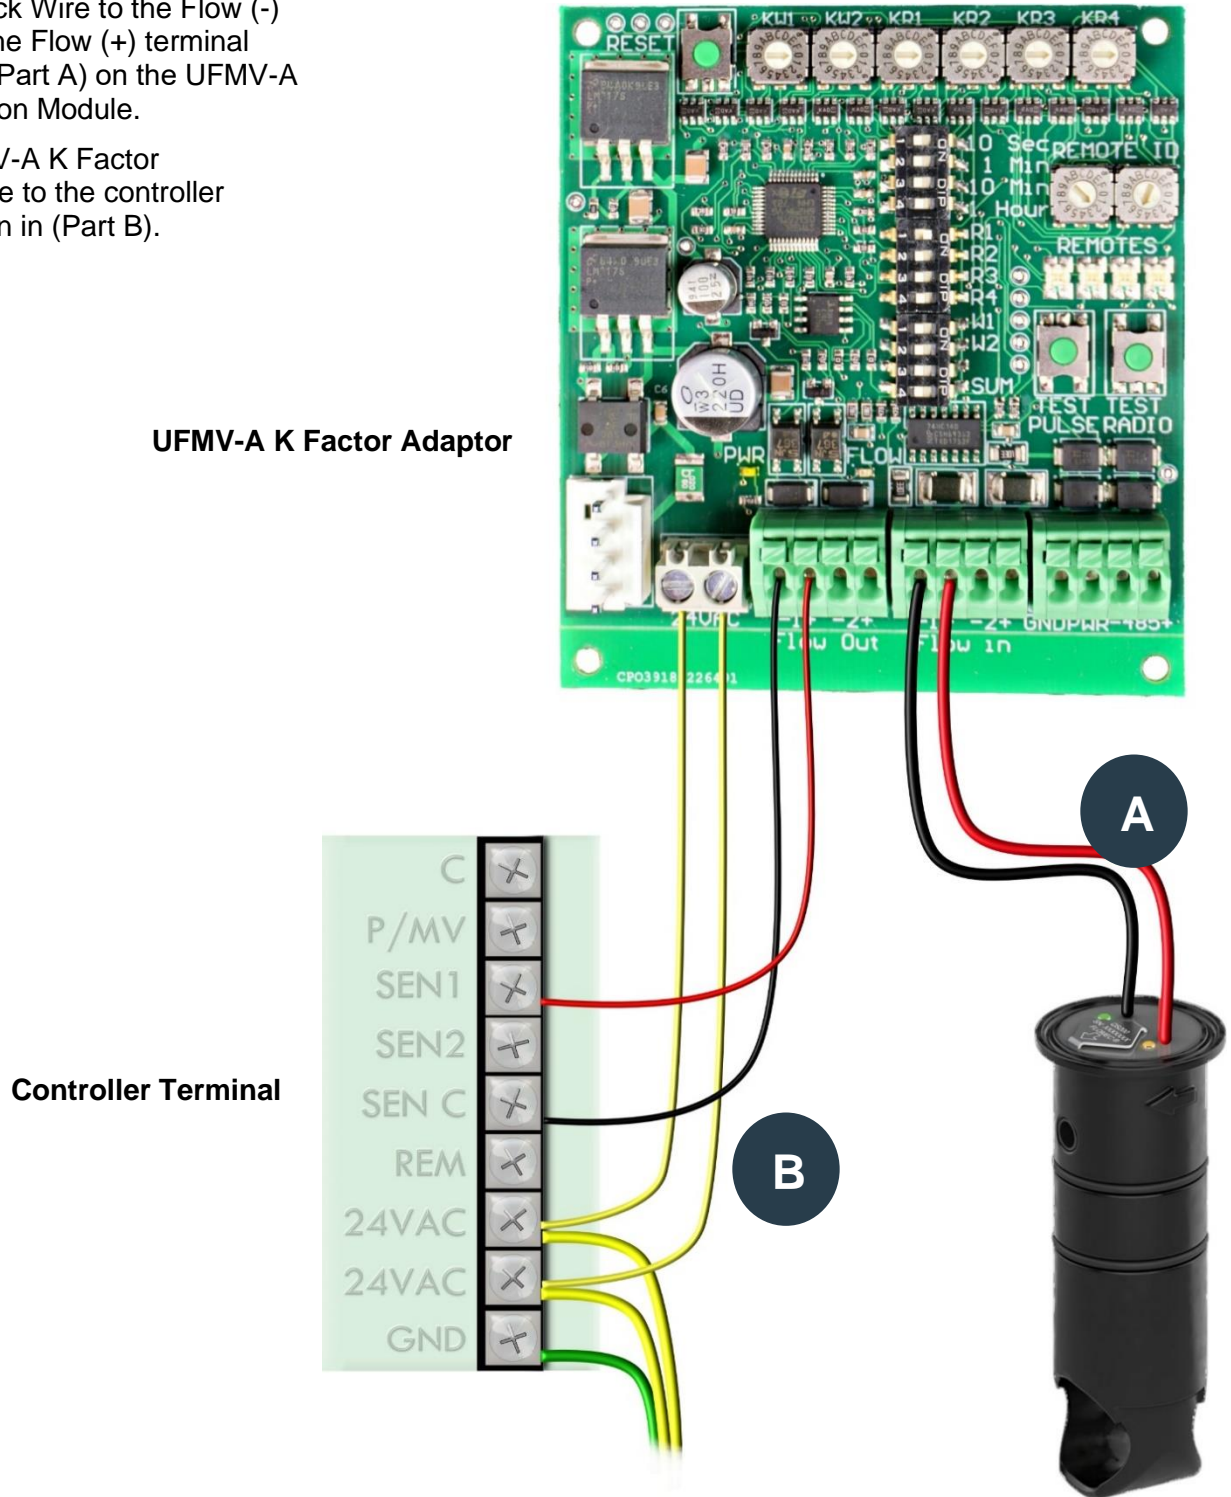

Figure 6
2.1) WIRING DIAGRAM USING A NON-TUCOR CONTROLLER (FIGURE 6)